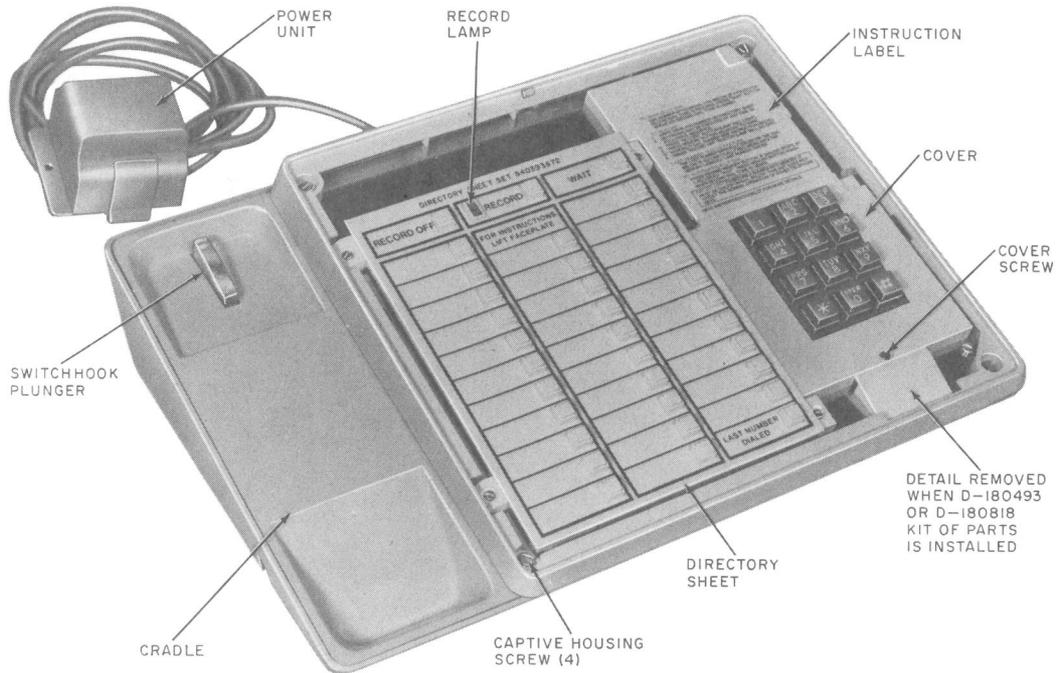

Fig. 2—Telephone Set—Faceplate and Handset Removed
**2.06 Operating Features (Fig. 2).**
**3.05** The directory sheets (Fig. 2) fit over the buttons of the Memory and are held in place by the faceplate. Additional sheets are available in the directory sheet set (840393672).
(3) Lock the board into position by inserting the accompanying self threading screw through the right side of the chassis.
(4) Mount the one-touch calling switch below the dial with the two screws provided.
(5) Make connections per Table C, E, or F.
(6) Break off the detail at the bottom of the cover (Fig. 2) and trim edge as required.
(7) Verify correct operation of option.
(8) Reassemble self.